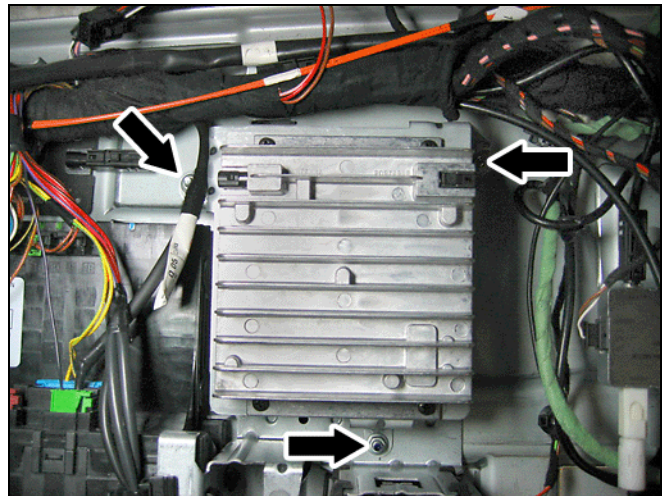

Figure 18
1. Mount the linear compensator/bracket assembly to the three threaded studs (Figure 18) on the equipment carrier—left of the mounted MHI/antenna switch bracket assembly—with three 8 mm nuts.